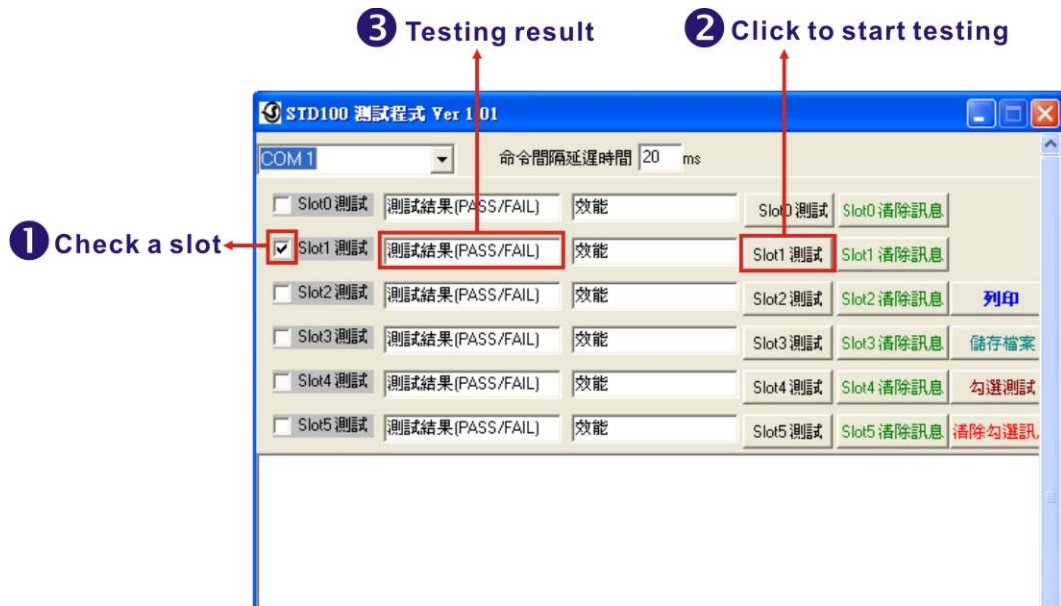

Figure 3-32: Smart Card Reader Testing 2
Step 4: The following screen appears. Check **Slot1** to test (all of the slots will be checked by default) and click the Slot1 testing button to start testing. The testing result will be shown (PASS or FAIL). See **Figure 3-32**.